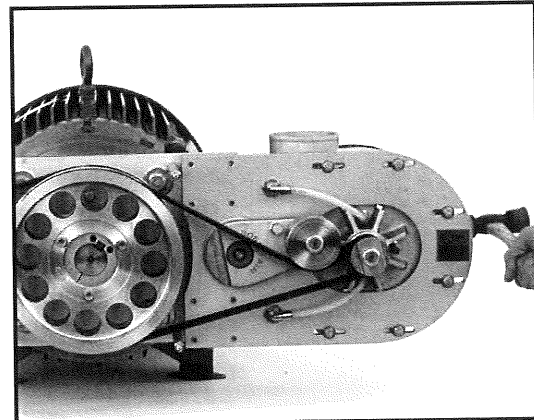
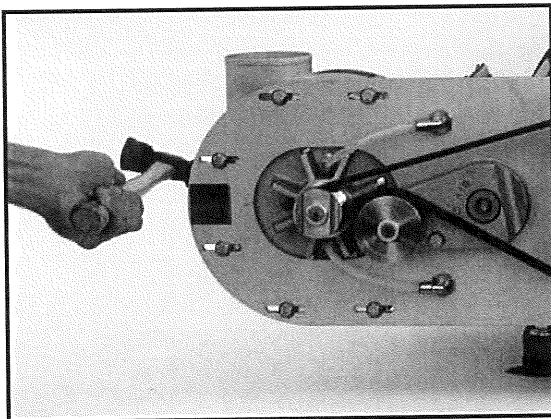

Figure 10 - Adjust Belt Gap
Figure 8 - Adjust Belt Gap
5. If a ¾ inch belt gap was not achieved, use a ½ inch box-end wrench to loosen the blower head screws and slide the head. (See Figure 8 and Figure 10)